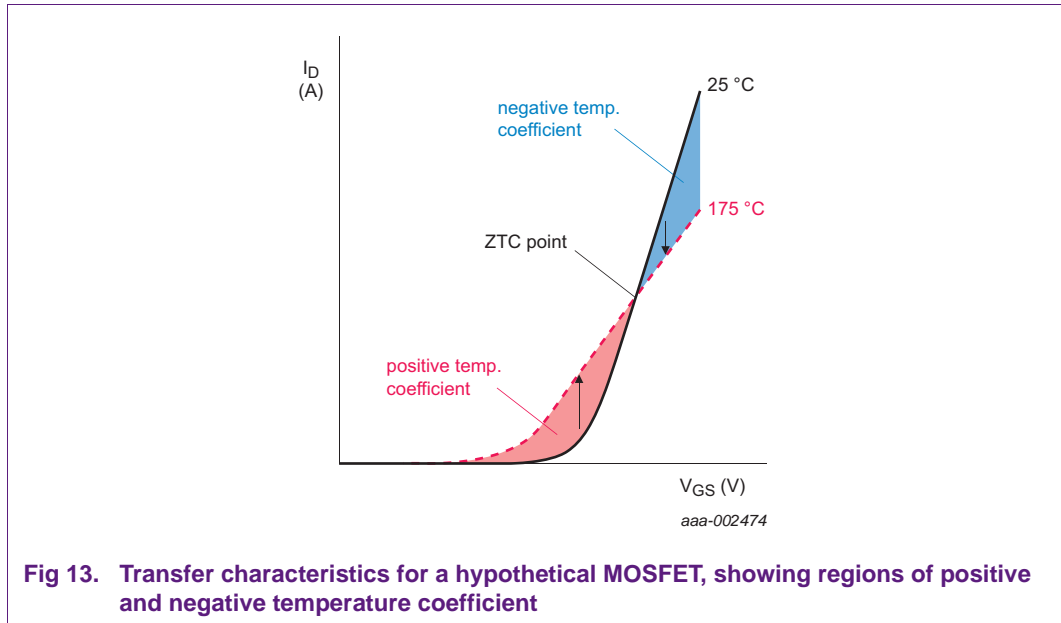

Fig 13. Transfer characteristics for a hypothetical MOSFET, showing regions of positive and negative temperature coefficient
When a MOSFET is turned on, there are two competing effects that determine how its current behaves with increasing temperature. As the temperature rises, the threshold voltage falls. The MOSFET is effectively turned on more strongly, thereby increasing the current. In opposition, the resistance of the silicon increases with increasing temperature, thereby reducing the current. The resultant effect for a constant drain-source voltage, is shown in Figure 13. This situation occurs when the gate-source voltage of a MOSFET is being used to control the current, or when the MOSFET is switched sufficiently slowly.
The device is limited by its breakdown voltage V_{DS} which is shown in region (4). The quick reference data provides values for V_{DS} at temperatures of 25 °C and above. In the hypothetical MOSFET shown in Figure 13, the rating is 100 V. For the BUK7Y12-55B, the voltage is 55 V.